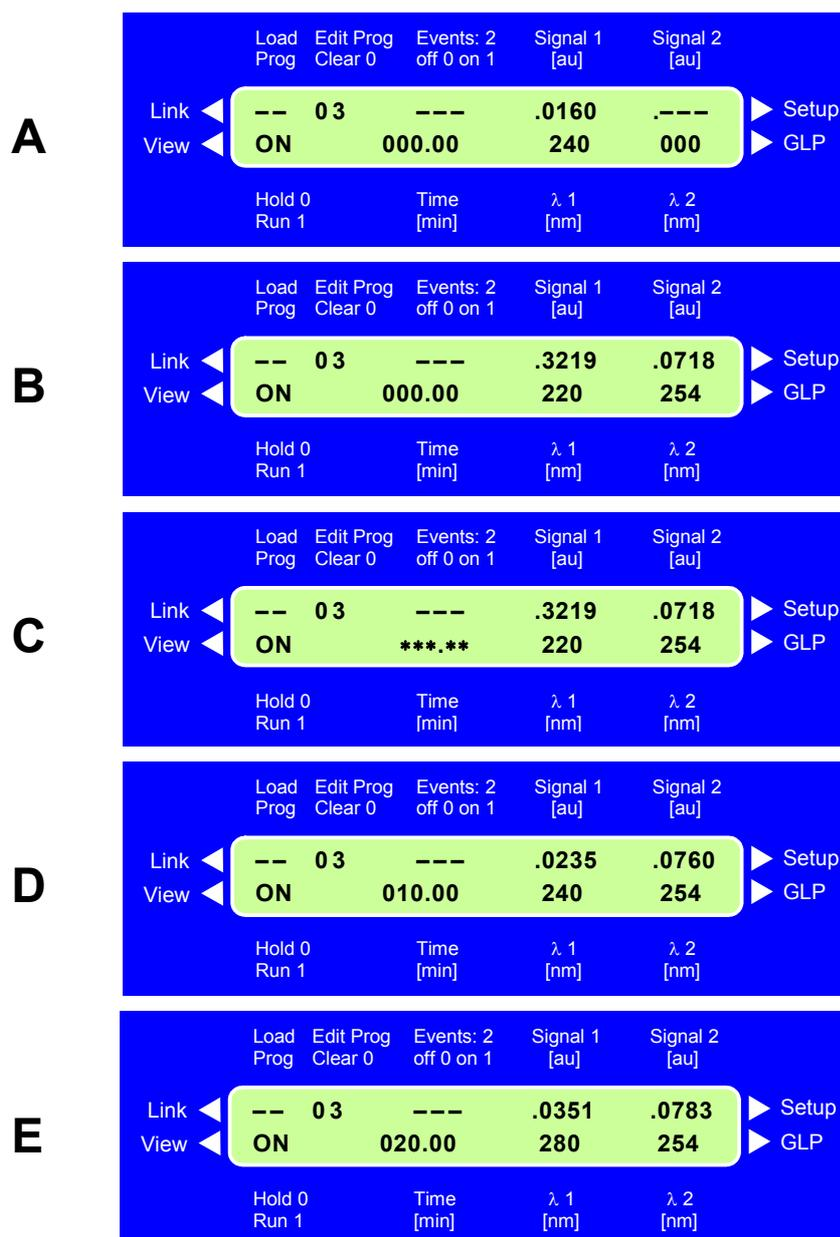

Fig. 24 Five steps to create a program
- 2) Move the cursor to the **Edit Prog** field and enter a number for the new program (here: 03). The cursor goes automatically to time 000.00 which is the fixed start time (see **section A** in Fig. 24).